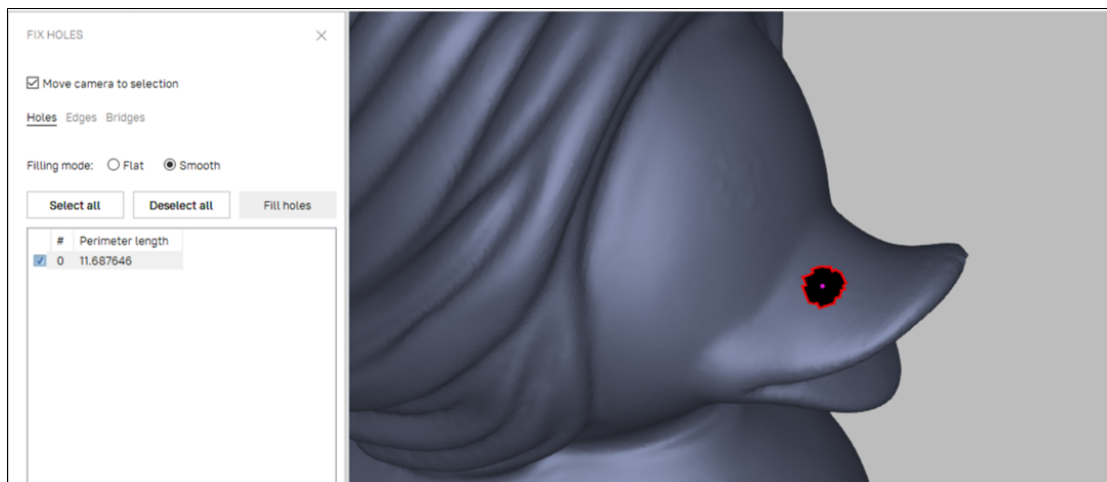

Figure 113: One hole on a curved surface, marked for correction.
3. Select a hole either in *3D View window* or mark the checkbox next to it in the list. Artec Studio will highlight these holes in red (see Figure 113).